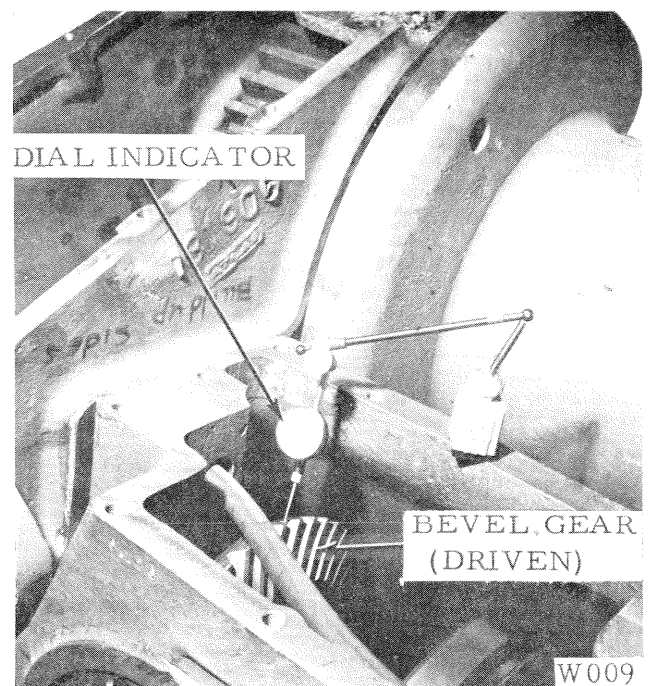

Figure 9
1. Check and record bevel gear back lash. Fig. 9. Unscrew the PTO shaft mounting screws.